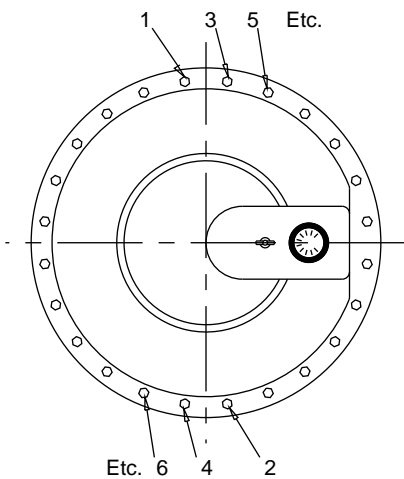

Figure 7 - Tighten bolts in sequence as shown.
5. Install bolts, washers, and nuts. Tighten nuts evenly and alternately (on opposite sides of tank) around filter (Figure 7).